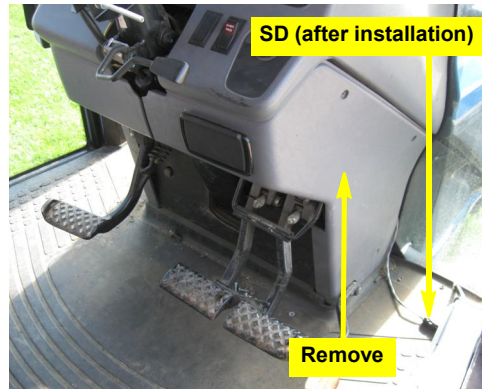

Figure 1a: The lower right steering console
- a. Access the steering shaft by removing the lower right panel of the steering console (Figure 1a).
- f. Refit the lower right steering console keeping **SD**'s connector outside (Figure 1a).